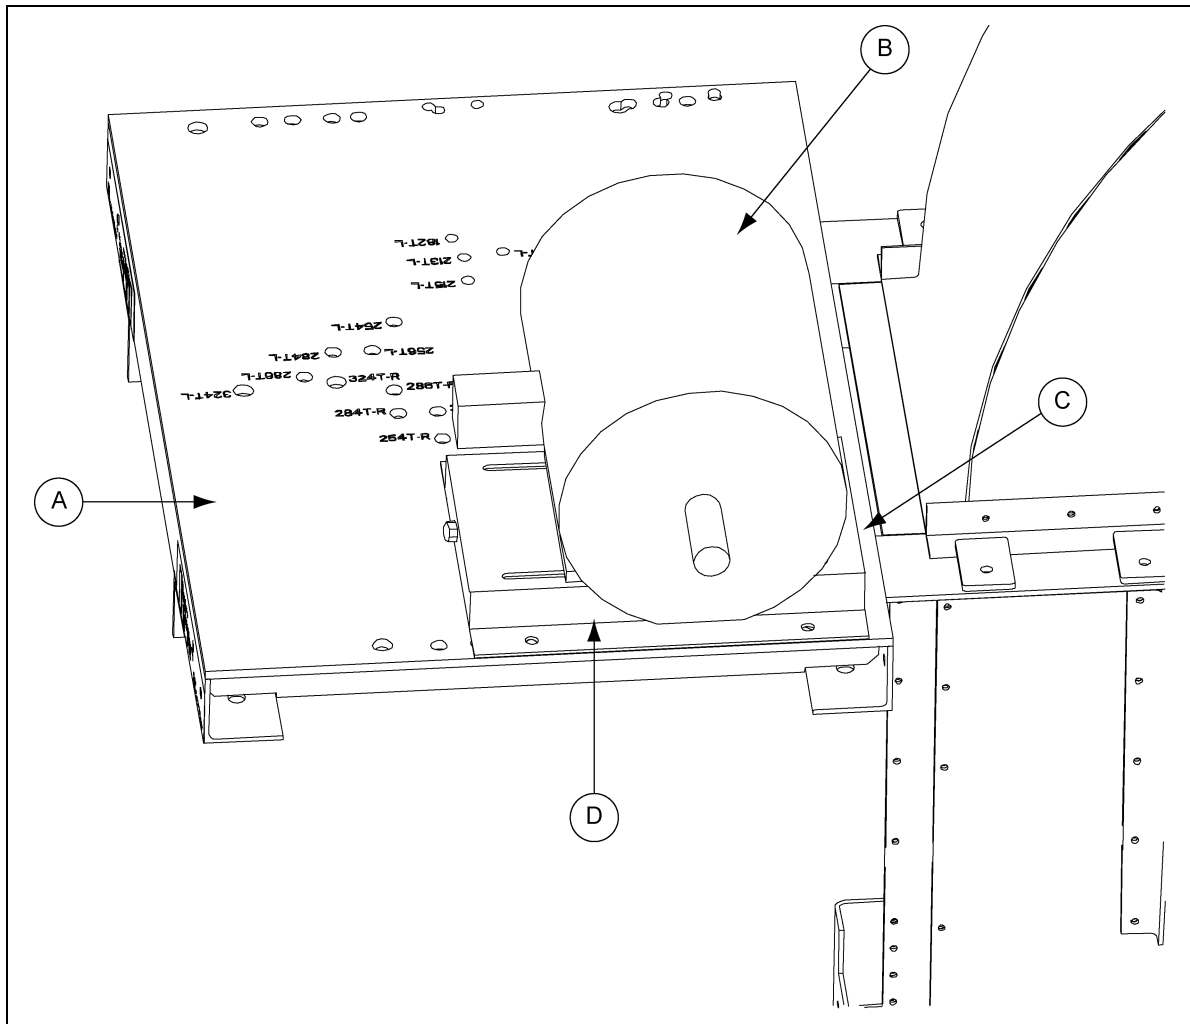

Figure 11C Motor Slide Base
**NOTE:** The slide base will fit in only one set of holes. (See Figure 11C.)